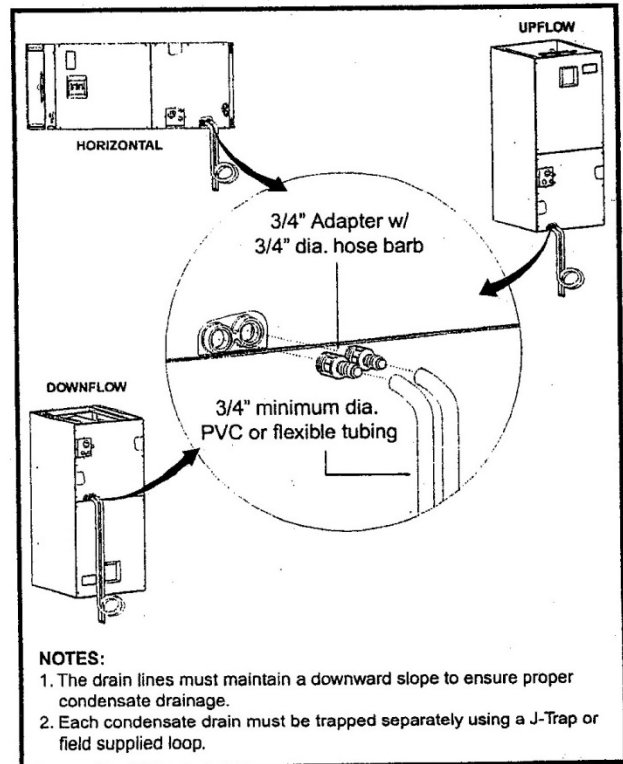

Figure 8. Condensate Drainage Example
- The drain pan that is supplied with this air handler contains a primary and secondary drain fitting. The condensate is drained from the unit through two 3/4" female pipe fittings located on the front side of the unit as shown in Figure 8.